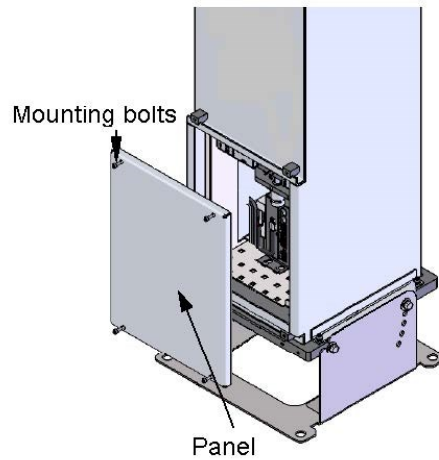

FIGURE 4-8. Removing the enclosure lid
1. Remove the four screws (FIGURE 4-8 (p. 24))